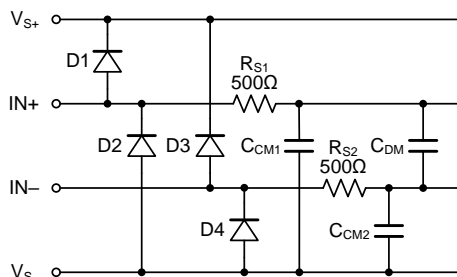

Figure 1. Input EMI Filter and Clamp Circuit
Figure 1 shows the input EMI filter and clamp circuit. The LTC8721/LTC8722/LTC8723 comparators have
Infrared (IR) communication is inherently immune to RF interference as long as there is a line-of-sight path between the transmitter and the receiver. It is also one of the lowest cost communication schemes. This makes it a good choice for implementing wireless communications in applications such as utility metering. A common system topology to extend battery life is to use a power efficient IR receiver analog front end (AFE) that is always on and wakes up the host only when there is a valid IR signal detected as shown in Figure 1.
Figure 1 shows the IR receiver system block diagram. The host MCU is normally in the shutdown mode (during which the quiescent current is less than 1 µA) except when data is being transferred.